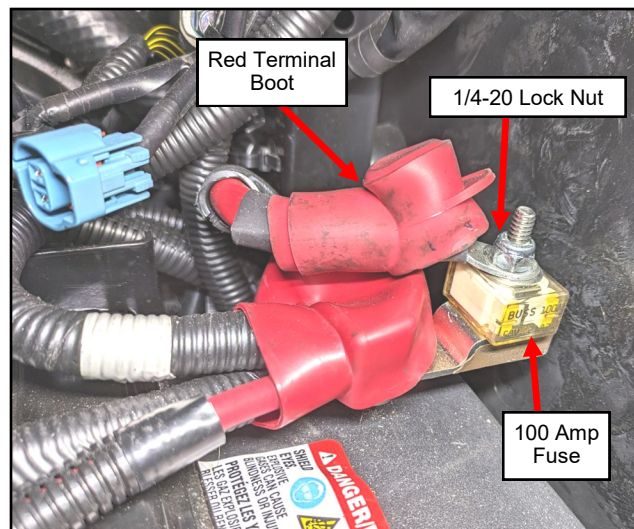

Fig. 4.4 (Install 100 Amp Fuse and A/C Power Wire)
- 4.4 Slide the provided red terminal boot over the cab side A/C Power Supply harness and install it to the fuse mounting bar with the 100 amp fuse as shown in figure 4.4.